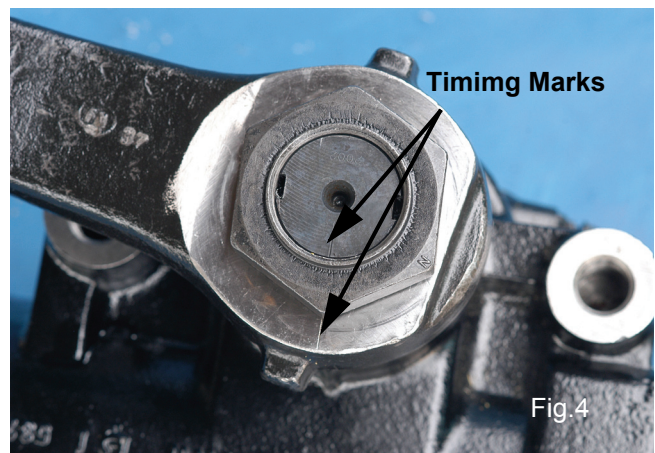

Fig.4
To position the sector shaft (42) on centre of travel for this adjustment, rotate steering wheel (input shaft, valve worm assembly) until the timing mark across the end of the sector shaft is perpendicular to the input shaft, valve worm assembly and in line timing mark on the end of housing (31) trunnion (Fig.4).